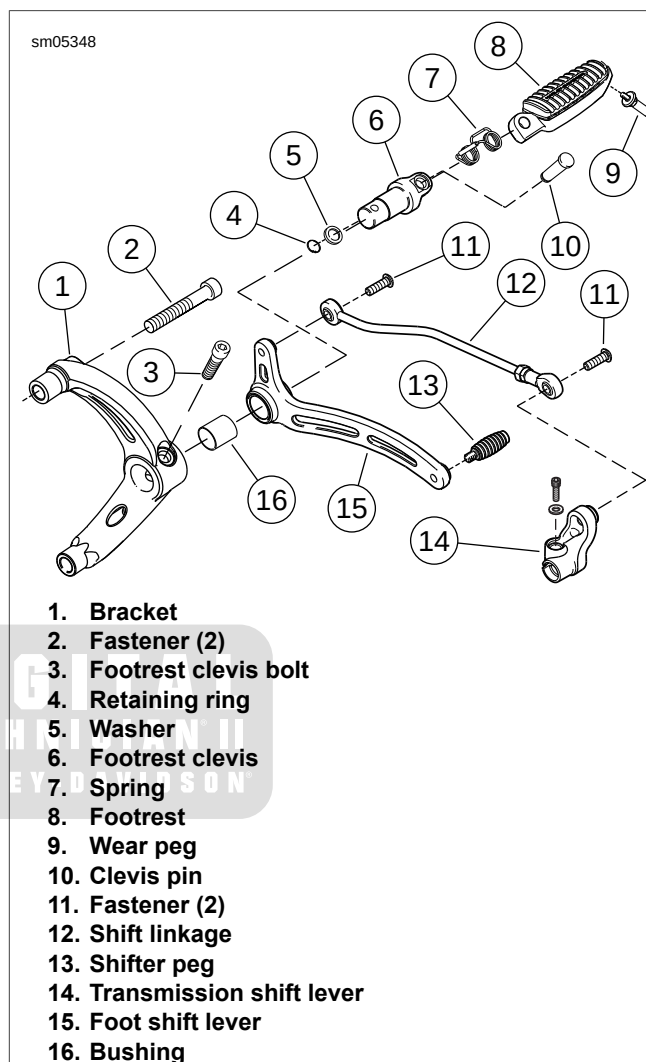

Figure 2-236. Rider Foot Control, Left Side: XR 1200X
1. See Figure 2-236. Remove fasteners (11) and remove linkage (12).
2. If necessary, remove wear peg (9).
3. Remove retaining ring (4) and washer (5). Discard retaining ring.
4. Remove clevis pin (10), spring (7), and footrest (8).
5. Remove bolt (3), footrest clevis (6), and foot shift lever (15).
6. Remove shifter peg (13).
7. If necessary, remove fasteners (2) and bracket (1).
1. See Figure 2-236. If removed, install bracket (1). Tighten fasteners (2) to 45-50 ft-lbs (61-68 Nm).
2. Install foot shift lever on footrest clevis. Install footrest clevis and bolt (3). Tighten to 13-17 ft-lbs (17.6-23.0 Nm).
3. Install footrest (8) and spring (7) on clevis. Secure with clevis pin (10). Install washer (5) and **new** retaining ring (4).
4. Install shifter peg (13). Tighten to 96-144 **in-lbs** (10.9-16.3 Nm).
6. Connect linkage (12) between foot shift lever (15) and transmission shift lever (14) using fasteners (11). Tighten to 120-180 **in-lbs** (13.6-20.3 Nm).